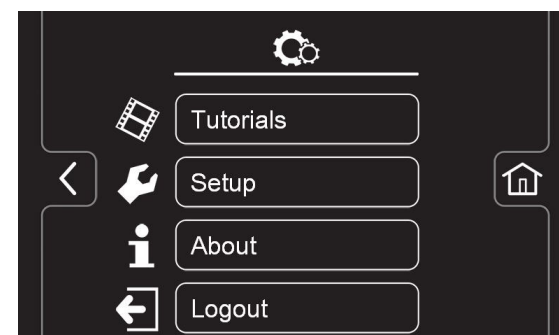

FIG. 59
9.  Press the Settings icon on the operator home screen to access the following screen (Figure 59). The buttons are explained as follows.